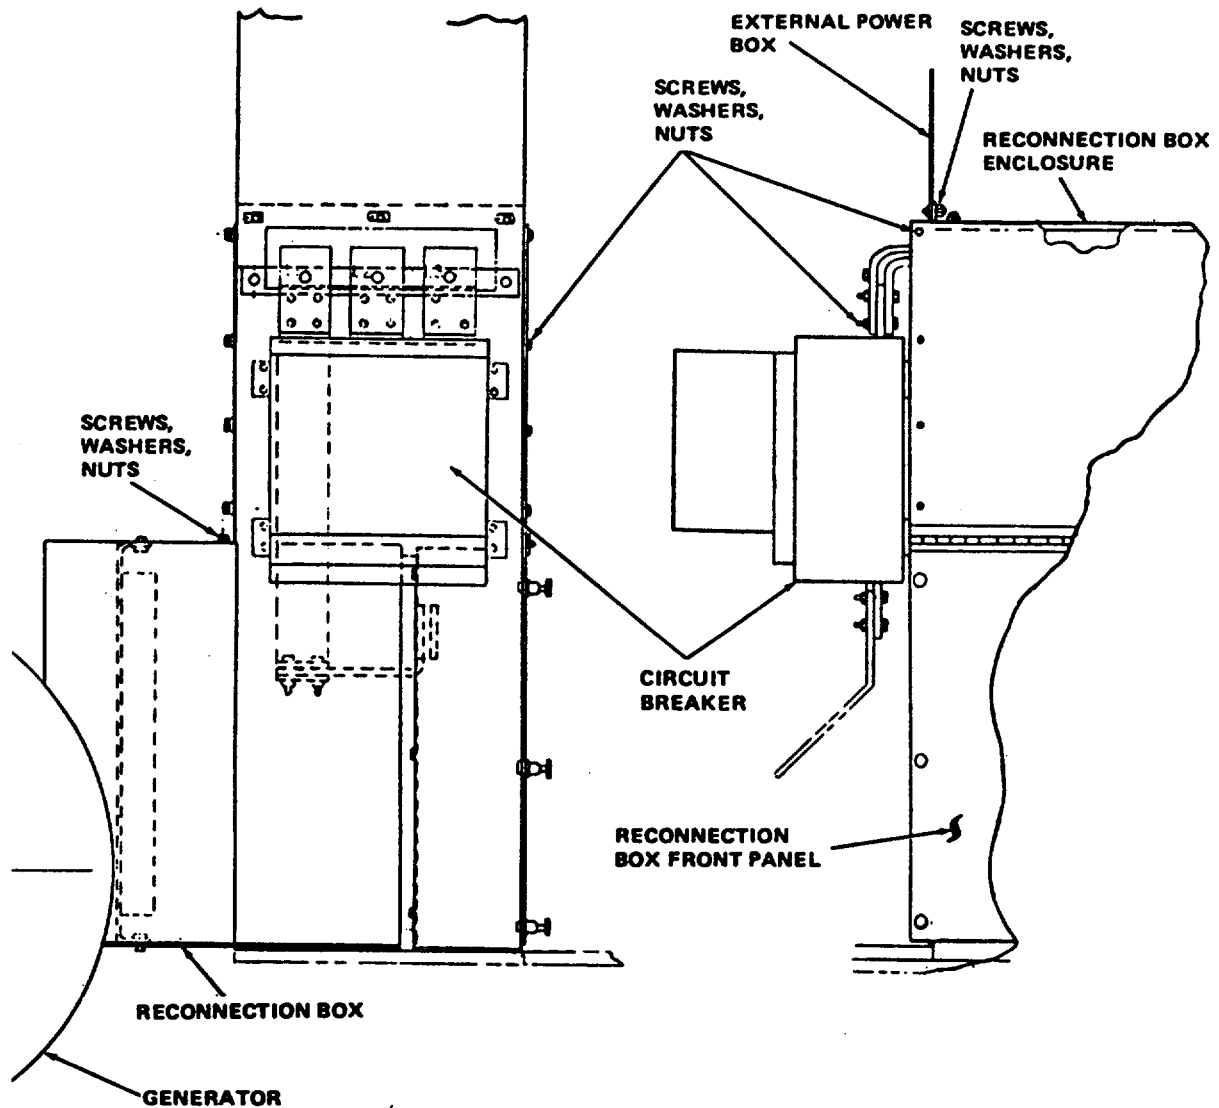

Figure 2-3. External Power Box Assembly, Removal and Installation (Sheet 2 of 2)
- (2) Secure all generator set electrical cables in vicinity of installation.
- (3) Locate external power box assembly and attach screws, washers, and nuts at bottom of unit to the skid base (see figure 2-3).
- (4) Attach screws, washers, and nuts securing unit to frame support upright (see figure 2-3).
- (5) Install control cable per paragraph 2-13 b.
- (6) Connect electrical connectors J27 through J31 (and J32, if equipped with a housing).
- (7) Thread heavy electrical cables through sleeves (on front) through unit, and connect to the reconnection box and circuit breaker. Secure cable tiedowns, as required.